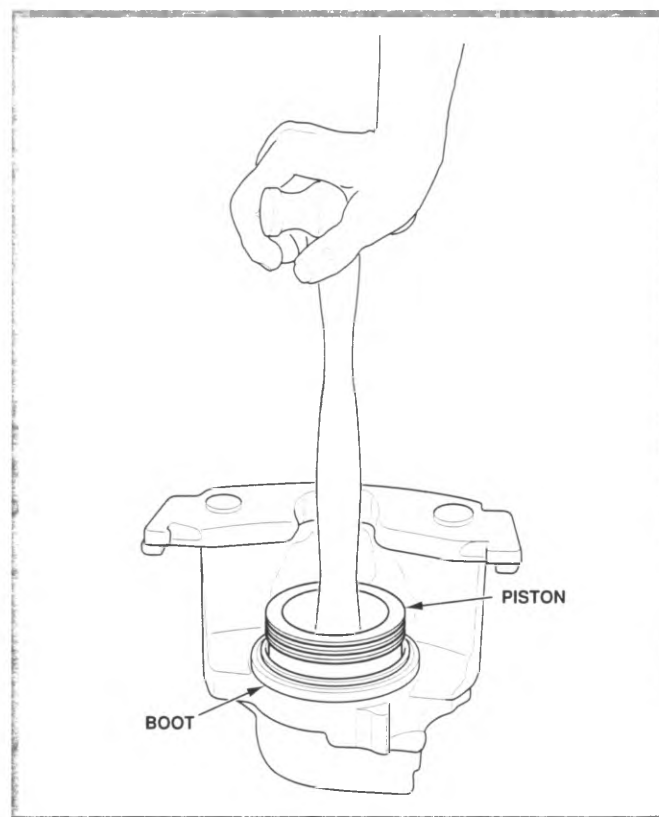

Figure 6-32, Installing Piston
15. Lubricate the bore of the caliper with clean brake fluid and insert the piston. Use care not to unseat the piston seal. Force the piston to the bottom of the caliper bore (a force of 50-100 pounds may be required) (figure 6-32). Use care not to tilt or jam the piston in the bore.